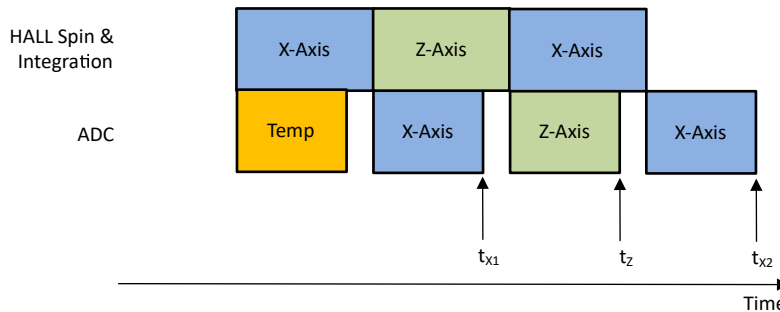

Figure 7-3. XZX Magnetic Field Conversion
In absolute angle measurement, application sensor data from multiple axes are required to calculate an accurate angle. The magnetic field data collected at different times through the same signal chain introduces error in angle calculation. The TMAG5273 offers pseudo-simultaneous sampling data collection modes to eliminate this error. Figure 7-3 shows an example where `MAG_CH_EN` is set at 1011b to collect XZX data. Equation 18 shows that the time stamps for the X and Z sensor data are the same.
- t_{x1} , t_z , t_{x2} are time stamps for X, Z, X sensor data completion as defined in Figure 7-3.